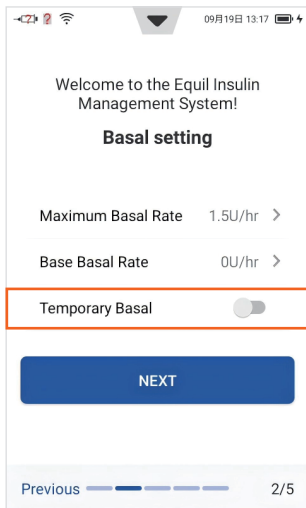

Figure 65
- c) Temporary Basal can be activated or inactivated (Figure 65).